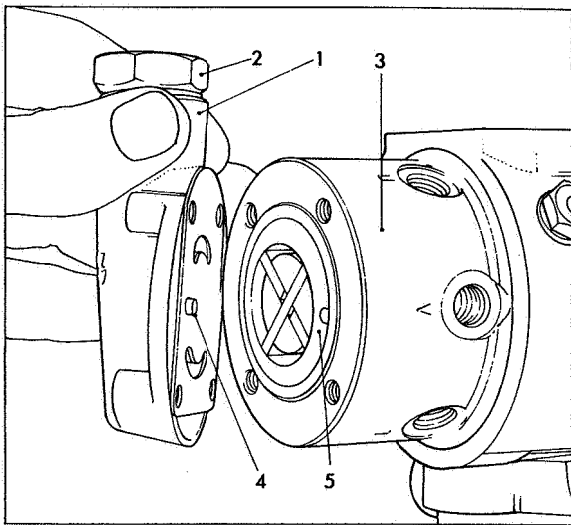

Fig 60 Fitting end plate assembly
Place the end plate (1) Fig 60 with the inlet connection (2) uppermost onto the hydraulic head (3) ensuring that the dowel (4) on the inner face of the end plate engages in the slot in the transfer pump liner (5) as shown.